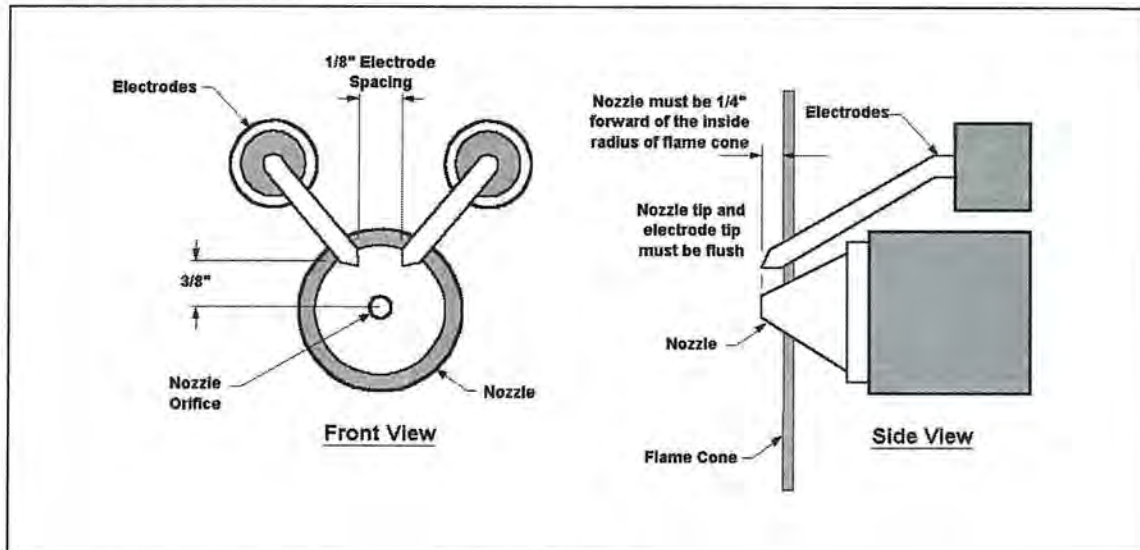

Figure 35 – ELECTRODE AND NOZZLE ADJUSTMENT DETAIL
- Waste Oil Burner electrodes are adjusted at time of manufacturing. However, they should be checked periodically and at time of installation to be sure they are set as noted in Figure 35.
- Nozzle position in relation to flame cone/burner tube is critical for low maintenance operation. Periodically check position as per Figure 35. **CAUTION: TURN OFF MAIN ELECTRICAL POWER BEFORE CHECKING OR ADJUSTING ELECTRODE SETTINGS.**